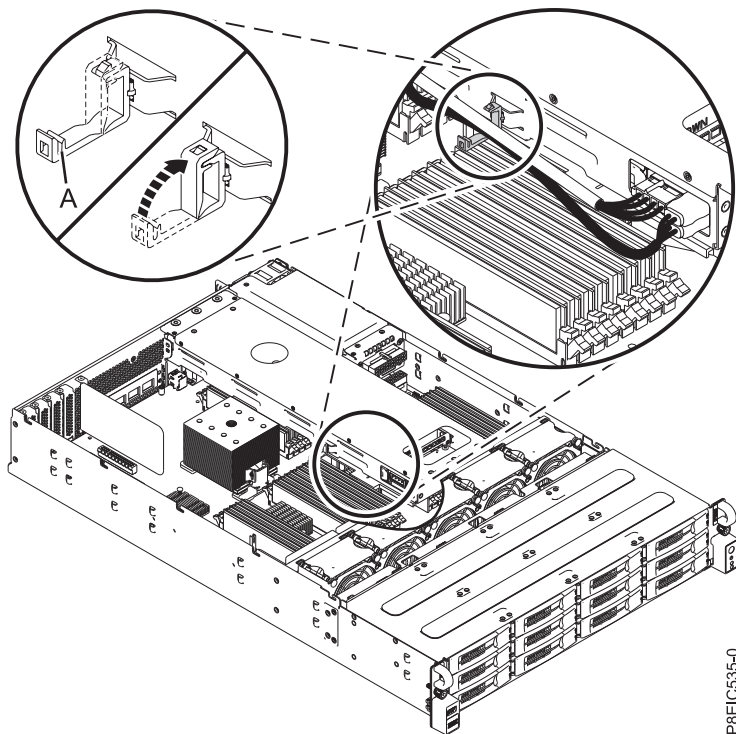

Figure 22. Fastening cables to the cable clip
4. Fasten the cables to the side of the rear drive tray assembly by using the cable clip (A). See Figure 22.